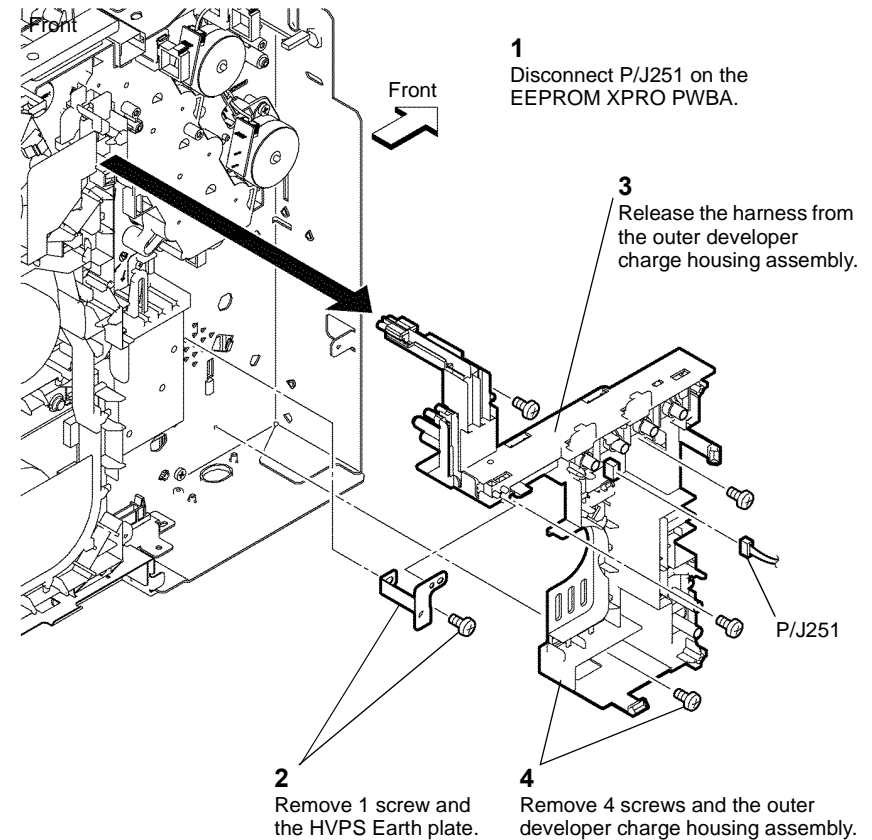

Figure 2 Outer developer charge housing
4. Remove the outer developer charge housing assembly, Figure 2.